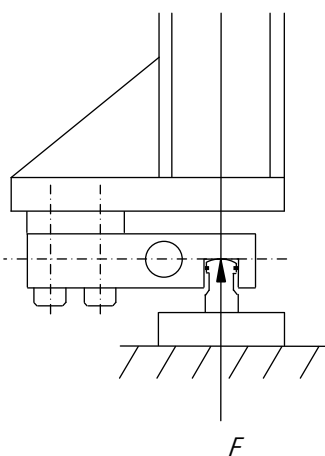
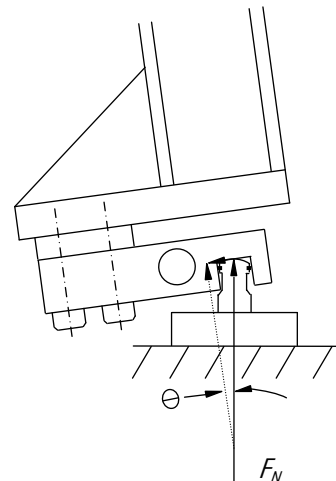

Figure 5-3a: Vertical Force
Figure 5-3b: Angular Force
Figure 5-3a and Figure 5-3b show how angular loading would affect a load cell anchored to the tank that is being weighed. Figure 5-3a shows an ideal installation with a perfectly vertical force. In Figure 5-3b, the force (F_N) that is normal to and sensed by the load cell would be less than the vertical force (F) applied to the load cell in the ideal installation. In this case, $F_N = F \times \text{Cosine } \theta$.